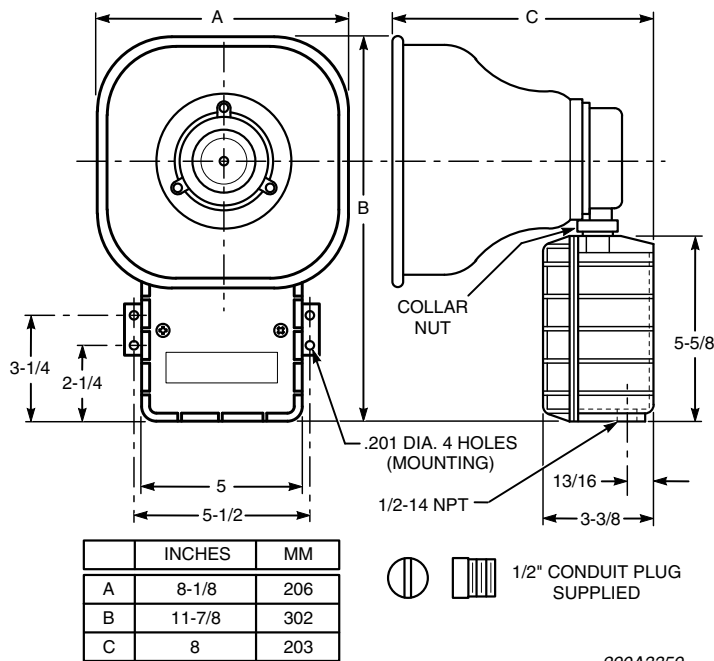

Figure 1. Model ASHH Dimensions
The amplified speaker can be mounted on any relatively flat surface. Conduit connections can be made to two 1/2" threaded openings at the bottom of the housing or to 7/8" knockout in rear of housing. A 1/2" conduit plug is supplied for field installation if one of the 1/2" threaded openings is not utilized. After the mounting location and mounting method have been selected, proceed with the applicable instructions below (see figure 1).
- c. Using the mounting holes (four (4) in external mounting bracket) as a template, scribe drill position marks on the mounting surface. See figure 1 for mounting hole locations and dimensions.
- f. Reposition speaker projector if necessary to obtain desired sound coverage. Loosen collar nut (see figure 1) and move projector to desired position.